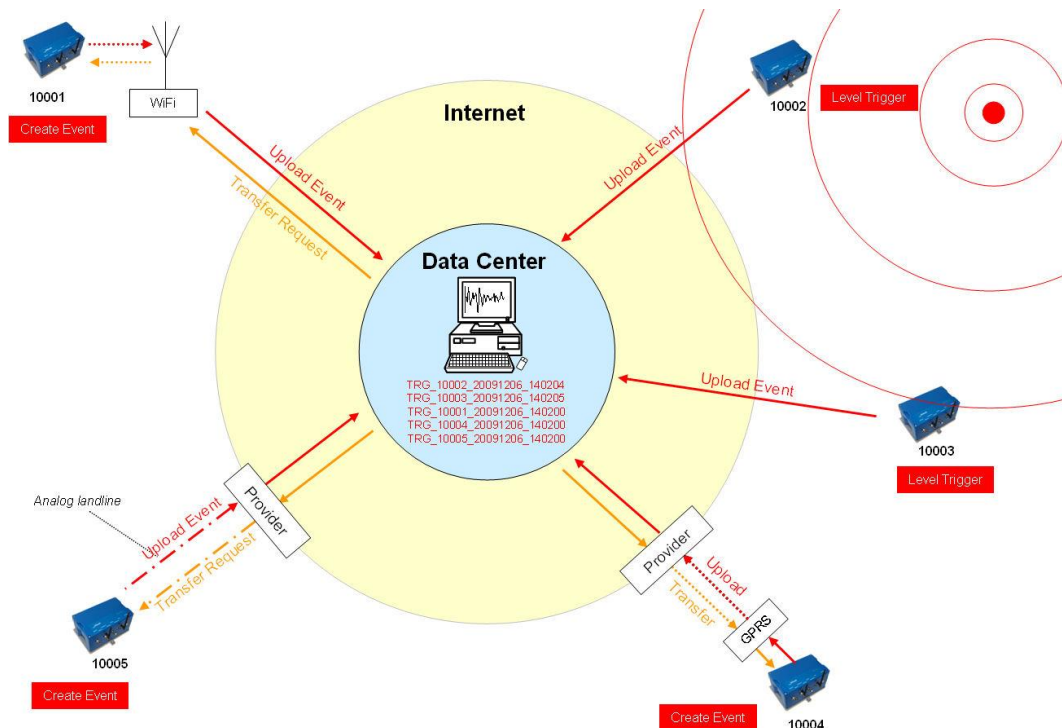

Figure 16. Behaviour on Events: Upload of extracted events
- All instruments will download the request during the next time checking the server (see Figure 16).
- The extracted event file will be uploaded to the data server (see Figure 16)